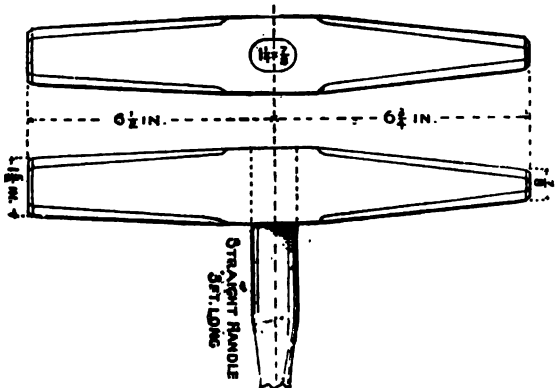

FIG. 1.—MAUL—Weight 10 lbs.
**Spike Mauls** (Fig. 1) are made of 2 1-8 in. square iron with piece of cast steel welded on each end. Face, octagonal, 1 5-8 in. across and 6 1-2 in. from center of eye. Top, (small end) octagonal, 7-8 in. across and 6 3-4 in. from center of eye. Eye, punched oval, 1 1-4 in.  $\times$  7-8 in.; weight about 10 lbs. Ten can be made in one day. With usage the face gets rounded, when the maul needs to be sent to shop and be re-dressed.